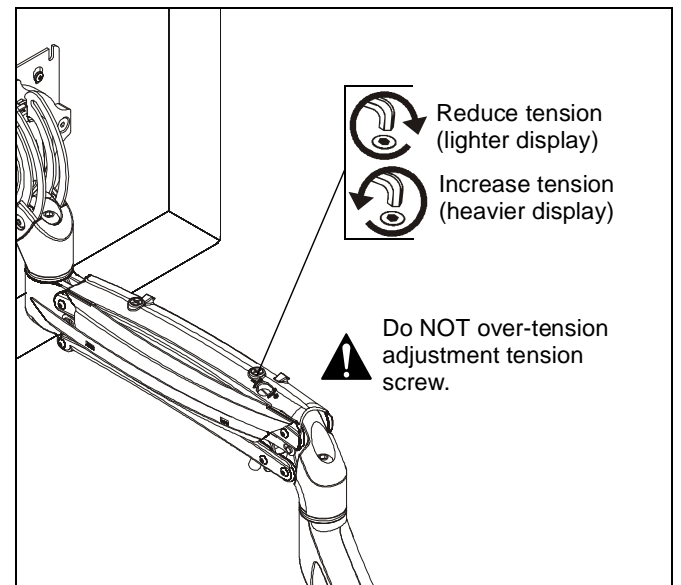

Figure 21
1. Tension may be adjusted with tension adjustment screw inside cable management cover and 1/8" hex key (N). Turn clockwise to reduce tension or counter-clockwise to increase tension. (See Figure 21)